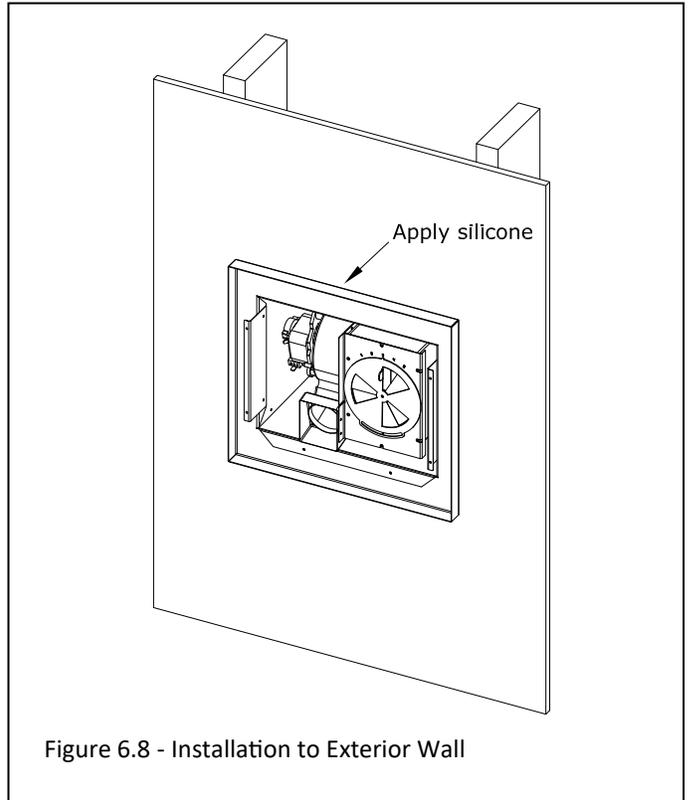

Figure 6.8 - Installation to Exterior Wall
5. Install the Kozy Power Vent shell into the framed opening if finishing material is 1" thick or less. Secure the assembly to the framed opening through the (8) holes shown in 6.4. Install the Kozy Power Vent to the Finishing Extension Kit using (8) threaded screws provided if the finishing material is greater than 1" thick. These (8) holes are located with (2) each side of the rubber gasket.
6. If the cap is fastened to the wall, apply a bead of silicone (with a minimum of 300°F continuous exposure rating) around the cap base where it meets the exterior wall. See Figure 6.8. If the cap is fastened to a Finishing Extension Kit apply a bead of silicone around the outside seam where the Kozy Power Vent and Finishing Extension Kit meet.